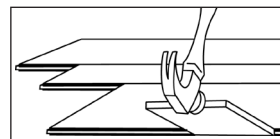

Figure 13
- It may be necessary to align the product with a cut-off piece of scrap as shown in (Figure 13 - Keep scrap angle low to avoid edge damage).